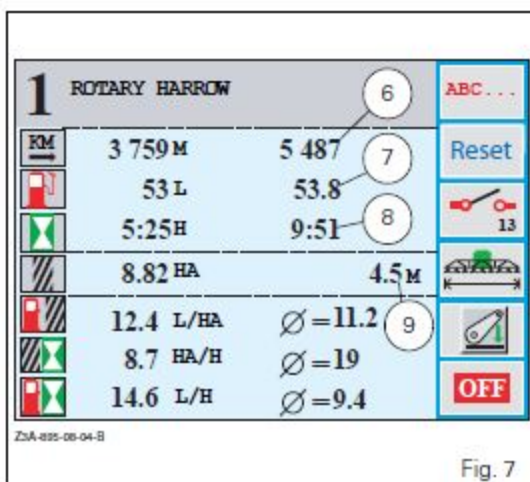

Fig. 7
- Confirm by pressing the encoder or key  $\llcorner_1$ . The (Fig. 7) window will be displayed.